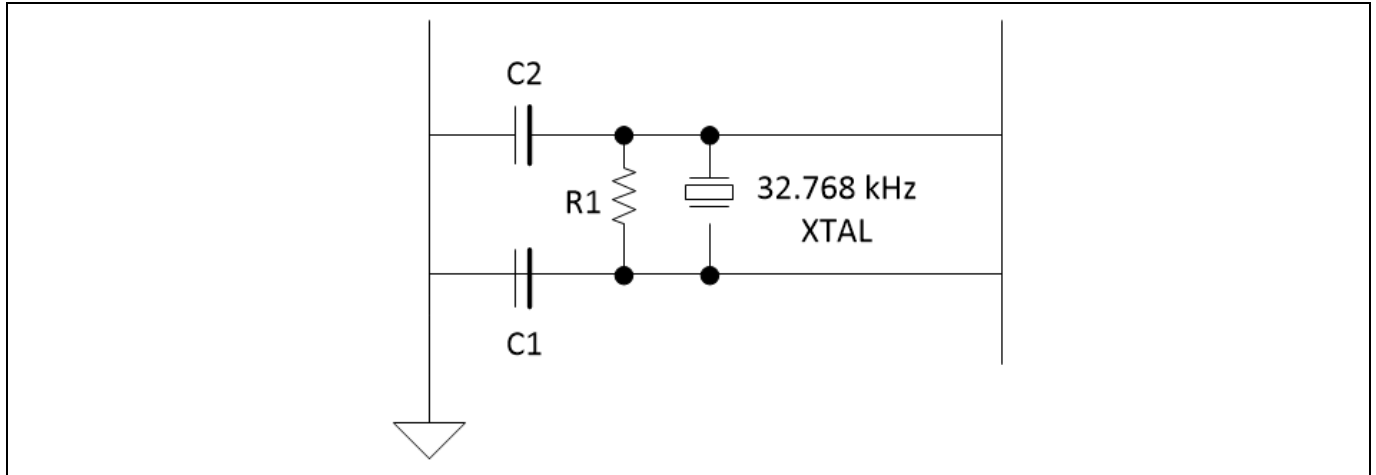

Figure 12 32-kHz oscillator block diagram
CYBT-4230xx-02 utilizes the built-in local oscillator (LO) on the CYW20719/21 silicon device for 32-kHz timing. The accuracy of the LO is ± 500 ppm. The use of an external XTAL oscillator is optional. CYBT-4230xx-02 includes external XTAL oscillator connections for applications requiring higher timing accuracy. **Figure 12** shows an external 32-kHz XTAL oscillator with external components and **Table 9** lists the recommended external oscillator's characteristics. This oscillator input can be operated with a 32-kHz or 32.768-kHz crystal oscillator or be driven with a clock input at similar frequency. The default component values are: $R1 = 10\text{ M}\Omega$ and $C1 = C2 = \sim 6\text{ pF}$. The values of $C1$ and $C2$ are used to fine-tune the oscillator.